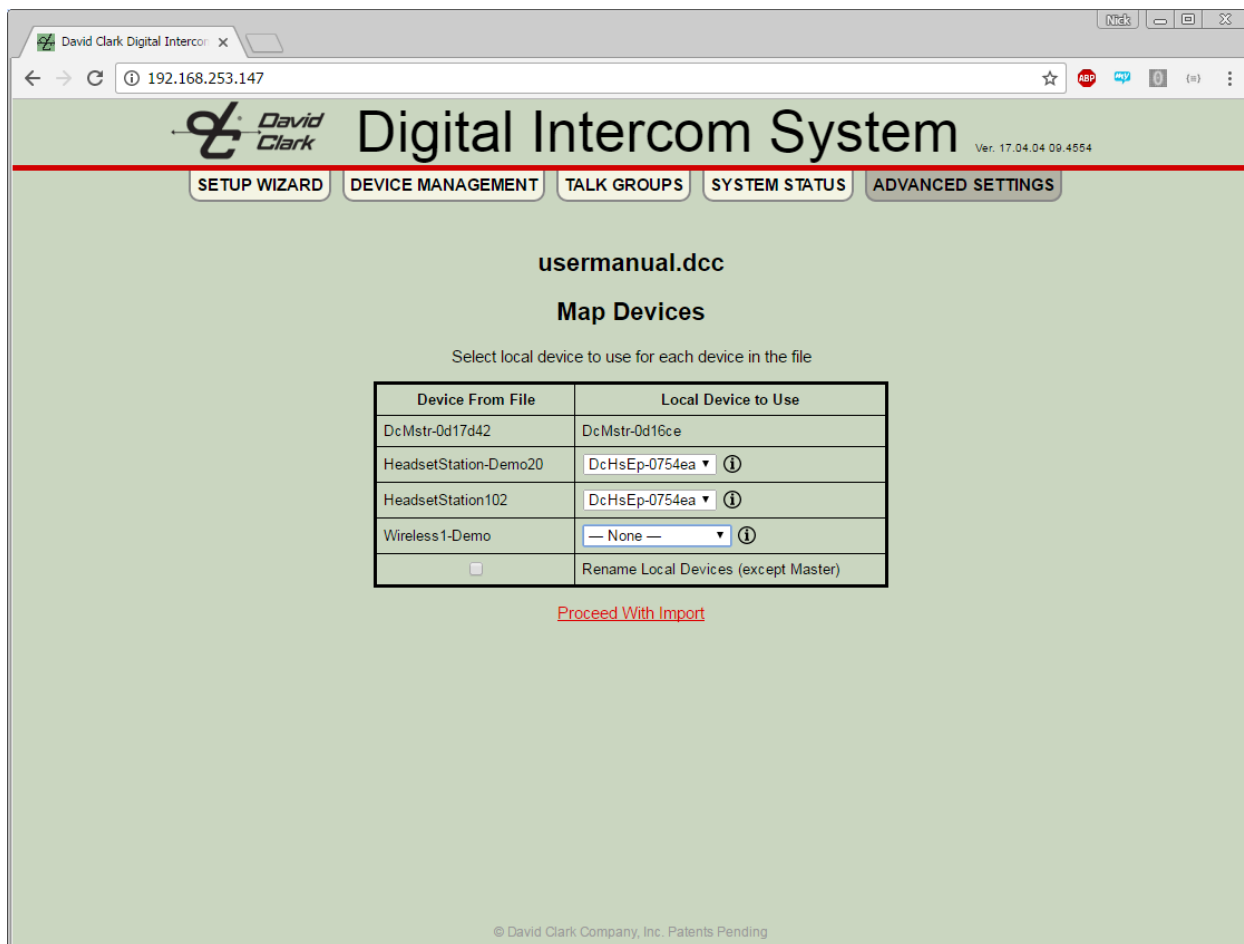

Figure 8.13: Map Devices
- A “Map Devices” page is displayed. See **Figure 8.13**.